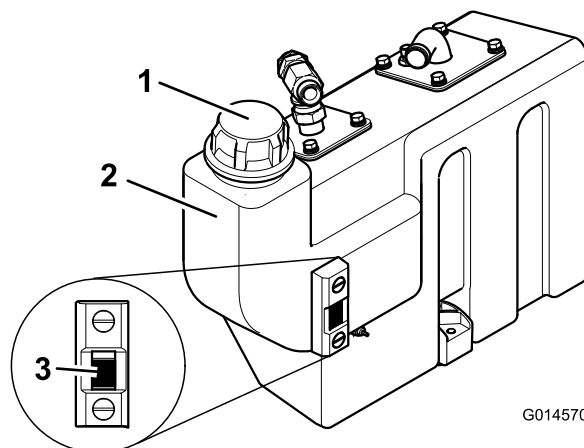

Figure 46
- Mobil EAL EnviroSyn H 46 (US)
- If hydraulic oil is needed, clean area around the cap of hydraulic tank (Figure 46). Remove cap from the tank.